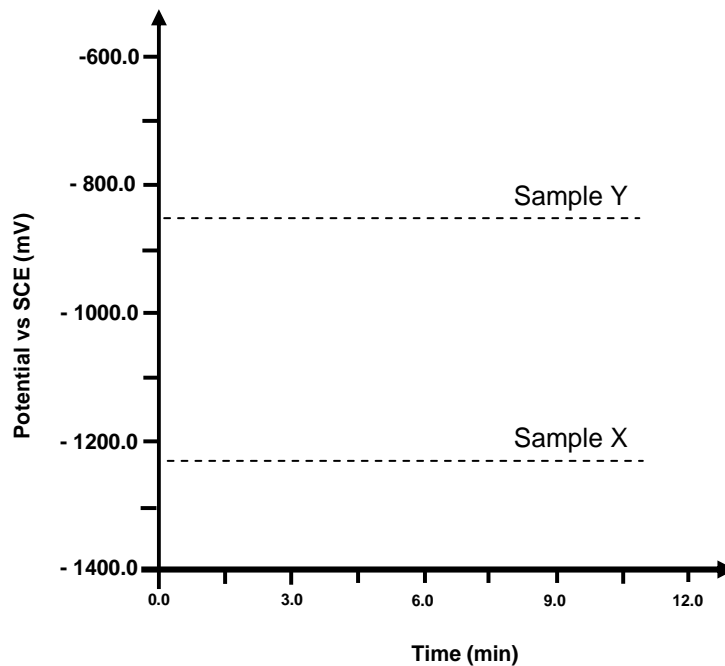

Figure 1 / Rajah 1
- [b] AAM Oil Explorer Sdn. Bhd., an oil company sent two samples (sample X and Sample Y) to USM in order to analyze corrosion properties. These samples will be used in seawater application. Figure 1 shows the laboratory monitoring results of the samples.